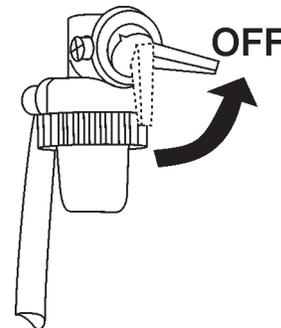

Figure 26. Engine Fuel Valve Lever (OFF Position)
5. Place the engine **fuel valve lever** (Figure 26) to the "OFF" position."